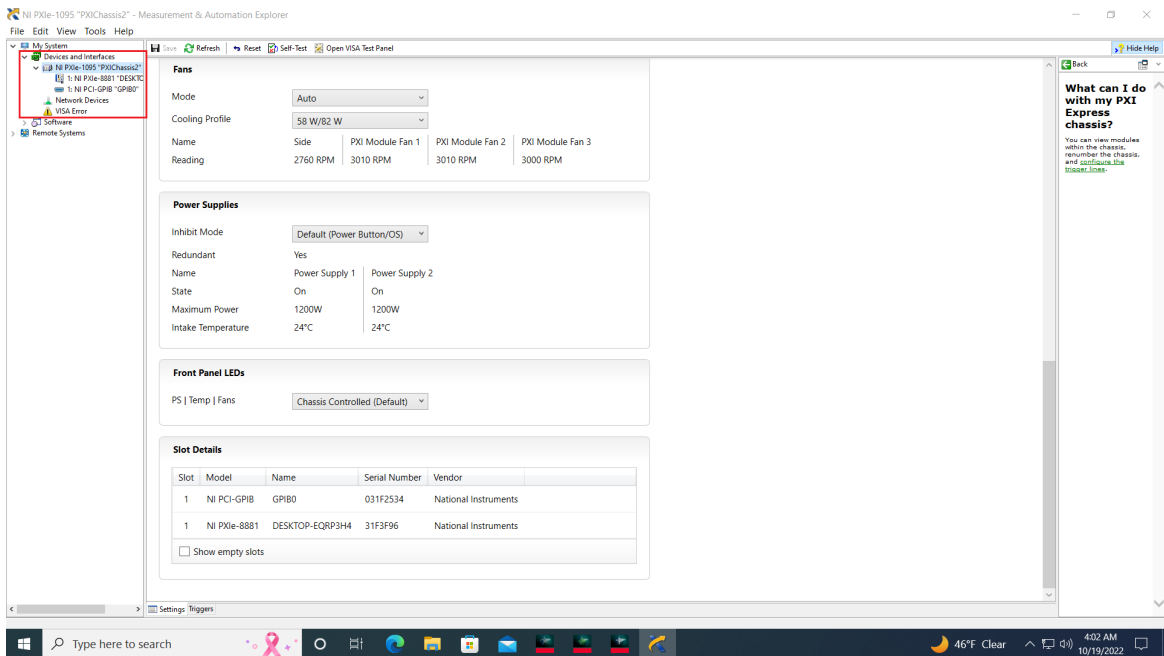

Figure 35 Non appearance of M5000 series modules in NI MAX interface
This issue is specific to the users who have installed one or more M5000 series modules in the National Instruments (NI) chassis. The modules may be detected by the Keysight IO Libraries Suite. However, if you do not see those under “Devices and Interfaces” in the NI – Measurement & Automation Explorer (MAX) Interface and see VISA error, as shown in Figure 35, the possible reason is that the NI associated drivers were not installed properly.